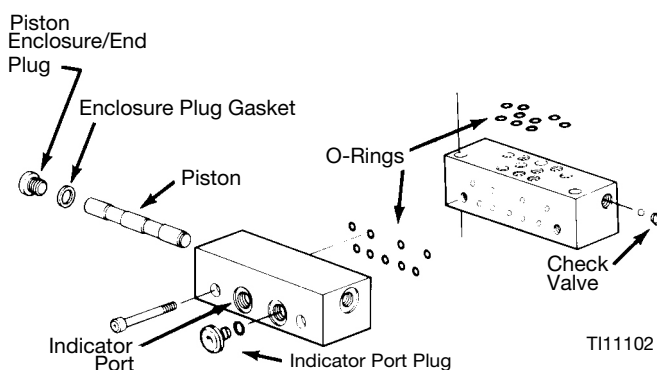

FIG. 3
Valve sections (three (3) or more required per manifold) contain pistons specially fitted to that section. There are built in outlet check valves and various passageways working with the pistons that meter and valve the flow of lubricant (FIG. 3).